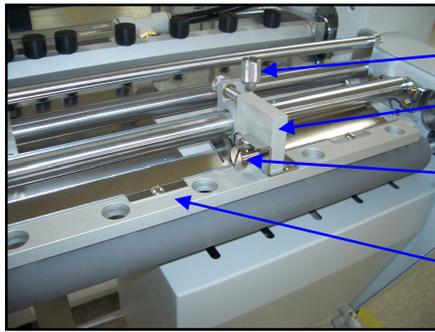

Figure 30
4. Remove the two thumbscrews that hold the rack to the feed arms, (Fig. 30).
6. Loosen the thumbscrew on the right side feed arm and slide it to the center of the bar, (Fig 30).